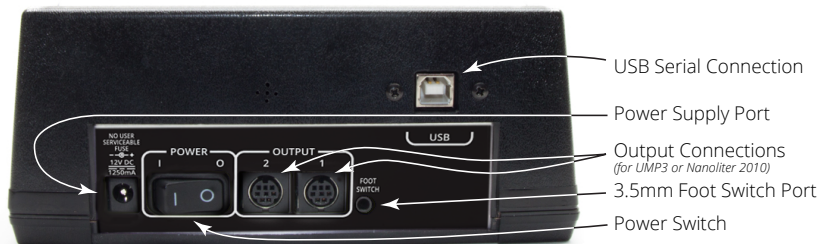

Fig. 8—The rear panel of the MICRO2T controller has the power switch and the connection ports for power, pumps, foot switch and computer control via USB.
Plug the **UMP3** cable into one of the **Output** connection ports on the back of the **MICRO2T** controller (Fig. 8).
1. Plug the power supply into the power supply port on the rear panel of the **MICRO2T** (Fig. 8).